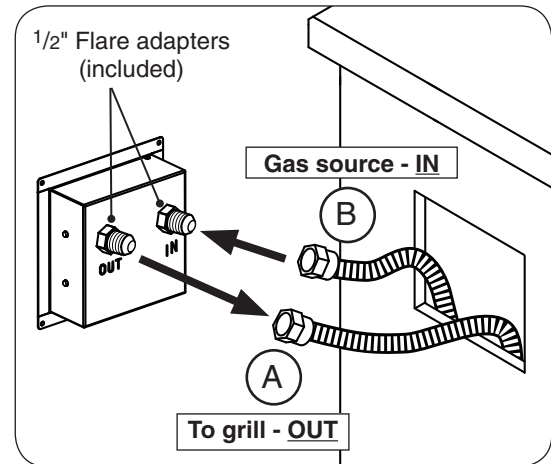

Fig. 2-2 Install timer box
2. Using two wrenches, connect the flex connector coming from the appliance to the 1/2" flare adapter labeled **OUT**. See Fig. 2-2, A. Ensure the connection is tightened securely.
3. Using two wrenches, connect a flex connector (not included) to the 1/2" flare adapter labeled **IN**. See Fig. 2-2, B. Ensure the connection is tightened securely.